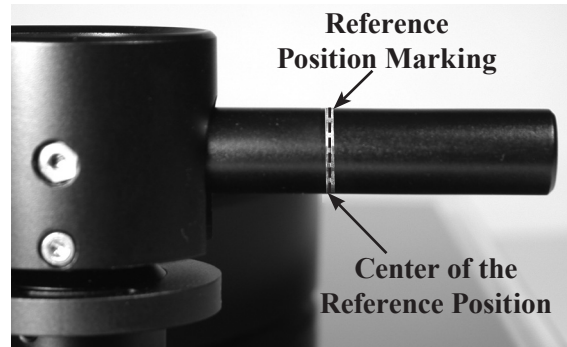

Figure 9
8. Align the inside opening of the Counterweight with the rear end of the Tone Arm. Then slowly rotate the Counterweight until the front vertical surface of it lines up with the center of the Counterweight Reference Line. Refer to figures 9, 10 and 11.